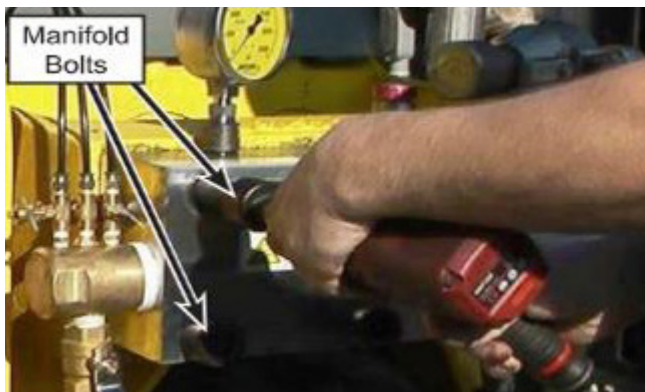

Figure 3: Manifold Bolt Removal
- g. Remove the top manifold bolts at each corner (Figure 3).